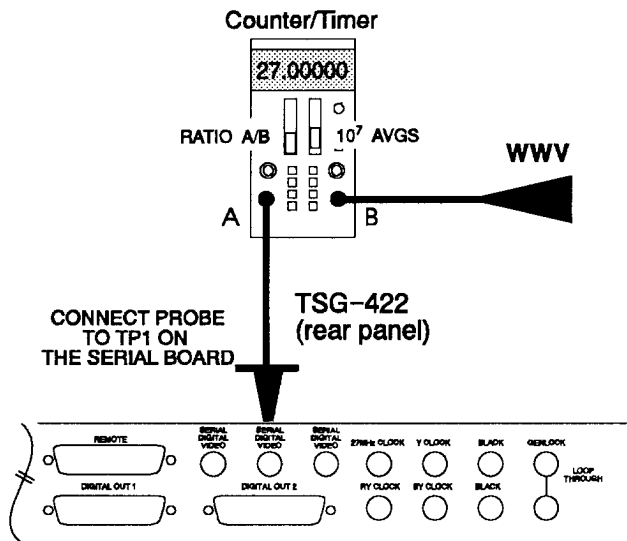

Fig. 5-19. Setup to calibrate Serial VCO (R22).
- Connect the equipment as shown in Fig. 5-19, connecting the A probe to TP1.